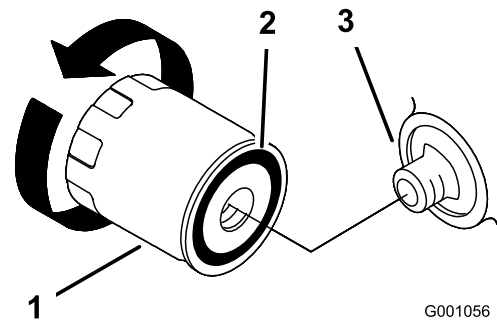

Figure 24
- Remove the old filter and wipe the filter-gasket surface (Figure 24).
- Apply a thin coat of new oil to the rubber gasket on the replacement filter (Figure 24).
- Install the replacement oil filter to the filter adapter, turn the oil filter clockwise until the rubber gasket contacts the filter adapter, then tighten the filter an additional 2/3 to 1 turn (Figure 24).